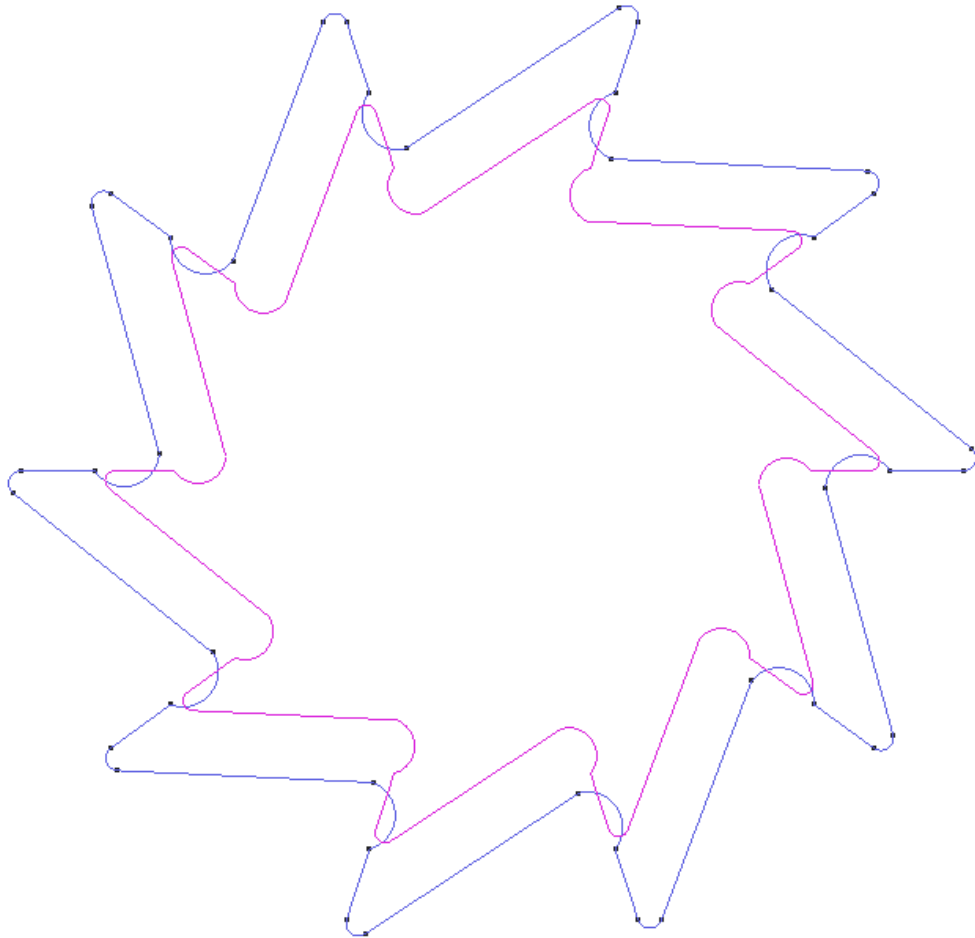

Figure 16. Creating a surface by contour
- 3 . Press **ESC** again to exit the function. The result is shown in Figure 16.